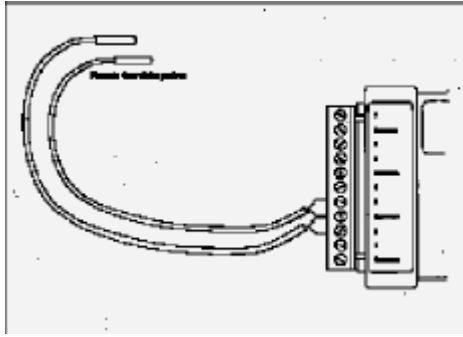

Figure 8-2: Connecting External Temperature Probes
4. To connect remote temperature (two-wire) probes, simply wire one lead into a channel input (labeled 1 to 7) and the other into a terminal marked **Common**. It doesn't matter which lead goes to which terminal. You can also connect more than one thermistor probe to the same **Common** terminal. For example, Figure 8-2 shows two external probes connected to channels 2 and 3 sharing the same **Common** terminal. If you are using a thermistor probe with shielded cable, terminate the shield wire by connecting it to any **Common** terminal.